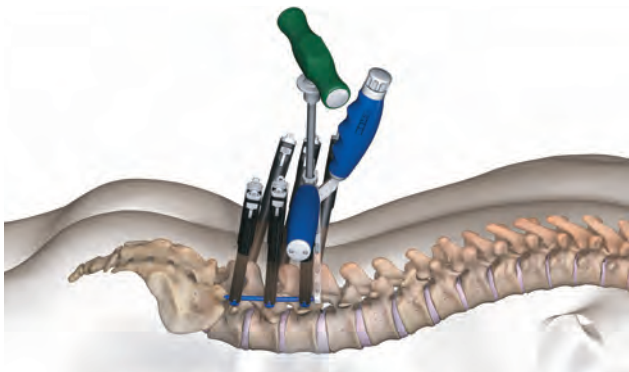

Figure 30
- Turn the torque handle clockwise until an audible click is heard (Figure 30).